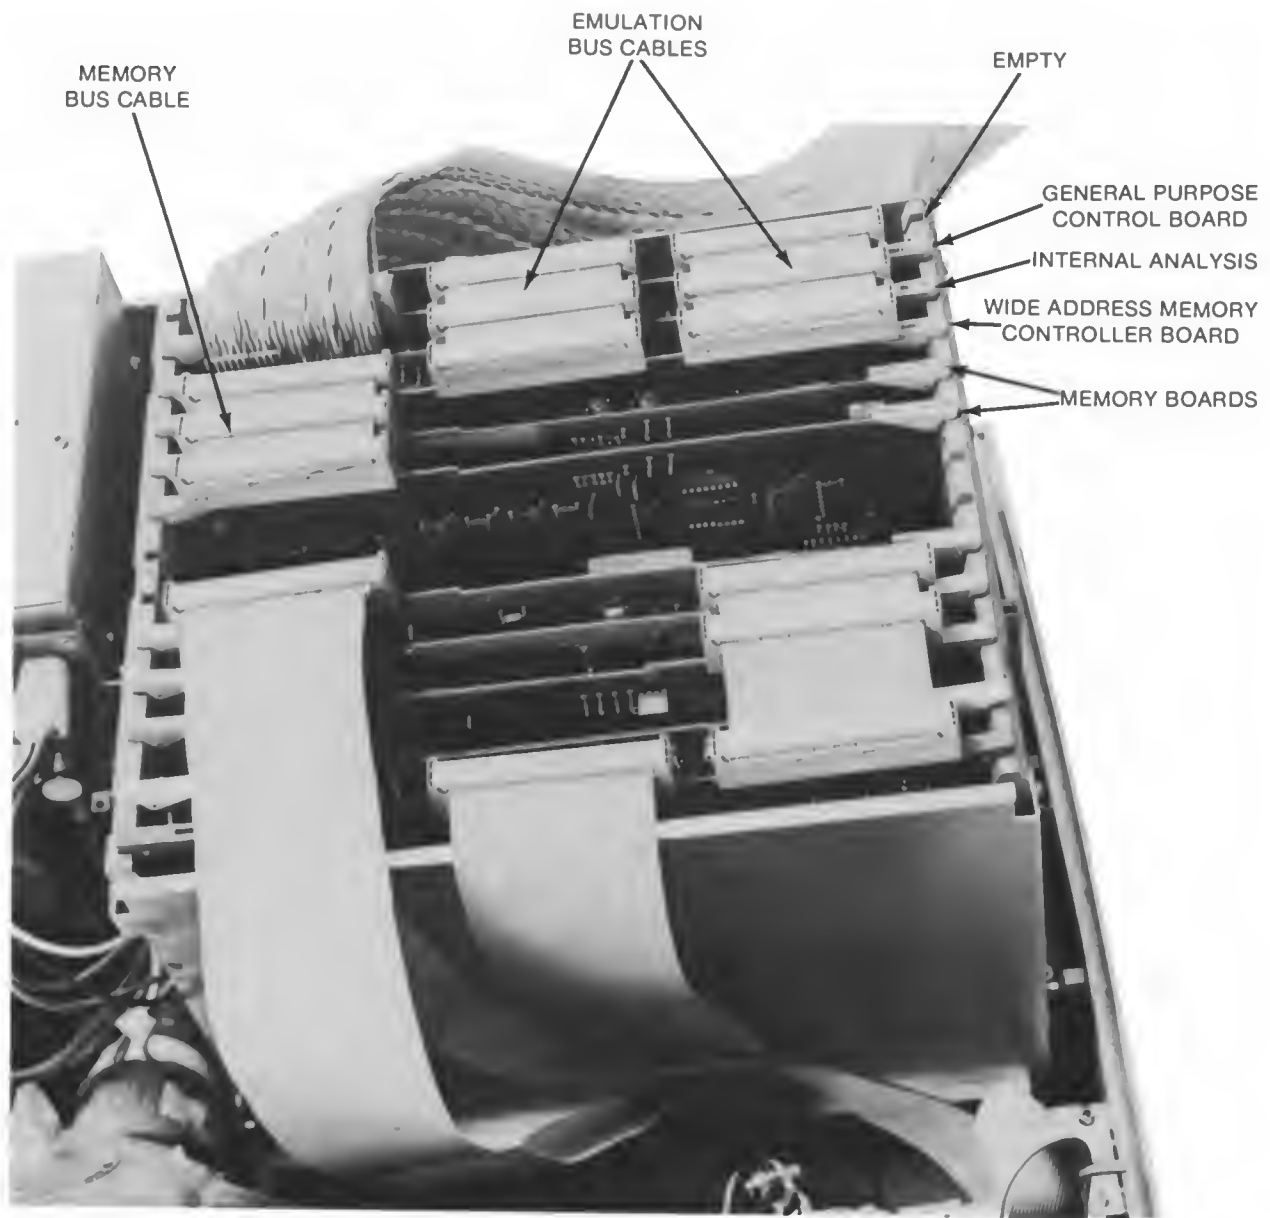

Figure 2-1. Recommended Motherboard Slot Configuration
2-6. In a 16 Bit emulation system, up to four Low Power Emulation Memory Boards (HP Model 64152B, 64153B or 64154B) can be installed. Typically the Memory Boards are installed in Motherboard slots 2 thru 5 with slot 6 reserved for the Memory Controller. This recommended configuration is shown in figure 2-1. Notice that slot 9 is empty. This is to prevent accidental damage to Rear Panel Bus Cable which may occur if the board occupying slot 9 rubs against the cable as it is installed in or removed from the mainframe. If slot 9 is used, care should be taken when installing or removing the board to prevent damage to this cable.
- c. Refer to figure 2-1 and connect the Memory and Emulation Bus Cables. These cables are keyed so that they can be installed in one direction only. Proper orientation can be verified by noting the orange dot on the left side of the cable connector when viewed from the front of the 64100 station.